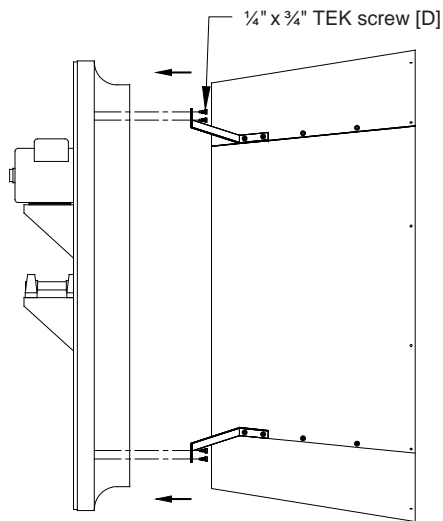

Figure 13
Attach support brackets to orifice using the (2) Screws [D] through each support bracket. See Figure 13.